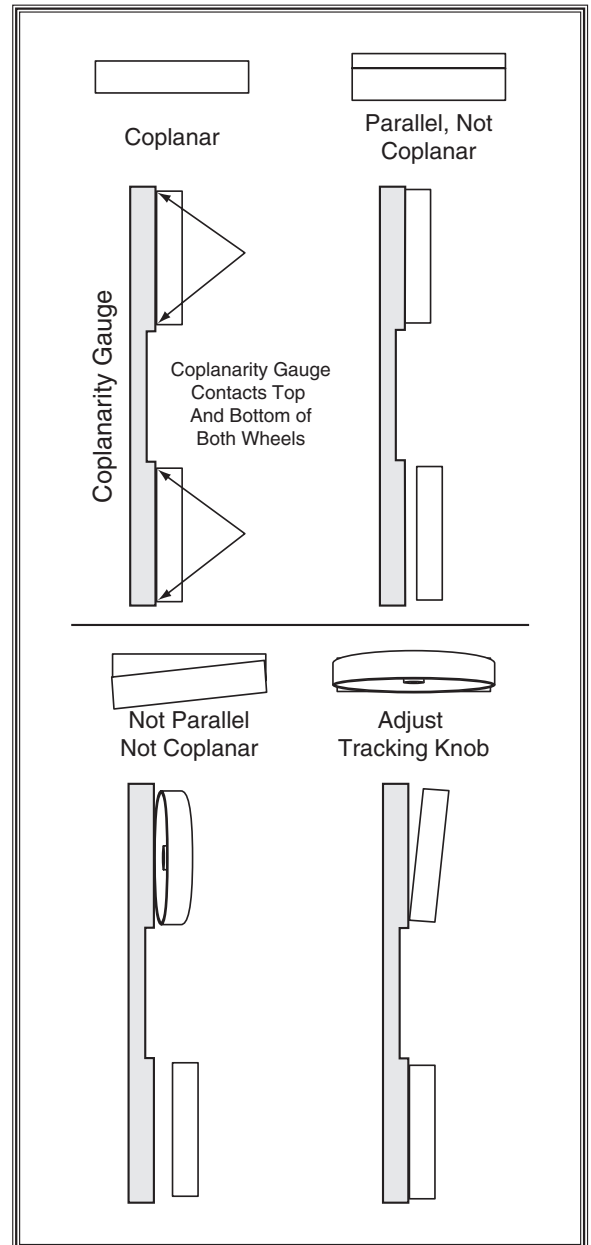

Figure 55. Coplanar diagram.
When wheels are aligned, or coplanar, the bandsaw cuts straighter, with much less vibration, heat, and blade wear because the blade is automatically balanced on the wheel. See **Figure 55** to better understand coplanarity.
2. With the blade on and properly tensioned, hold a straightedge or a self-made "coplanarity gauge" (**Figure 55**) close to the center of both wheels. Make sure the straightedge or gauge fully extends across the wheels as shown in **Figure 55**.